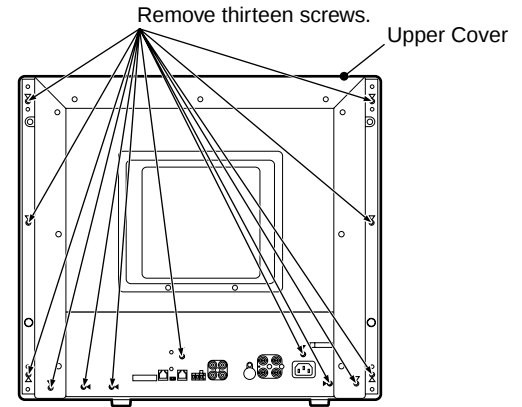

Fig. 2-2
- Referring to Fig. 2-2, remove thirteen screws that secure the Upper Cover and remove the Upper Cover.